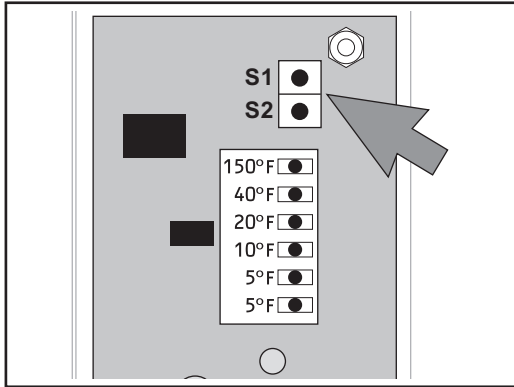

Figure 5
16. Locate the S1 and S2 push button switches on the rear of the control. (Figure 5)